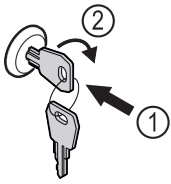

Fig. 125
- ▶ Insert key Fig. 125 (1).
- ▶ Turn key clockwise by 90° Fig. 125 (2).